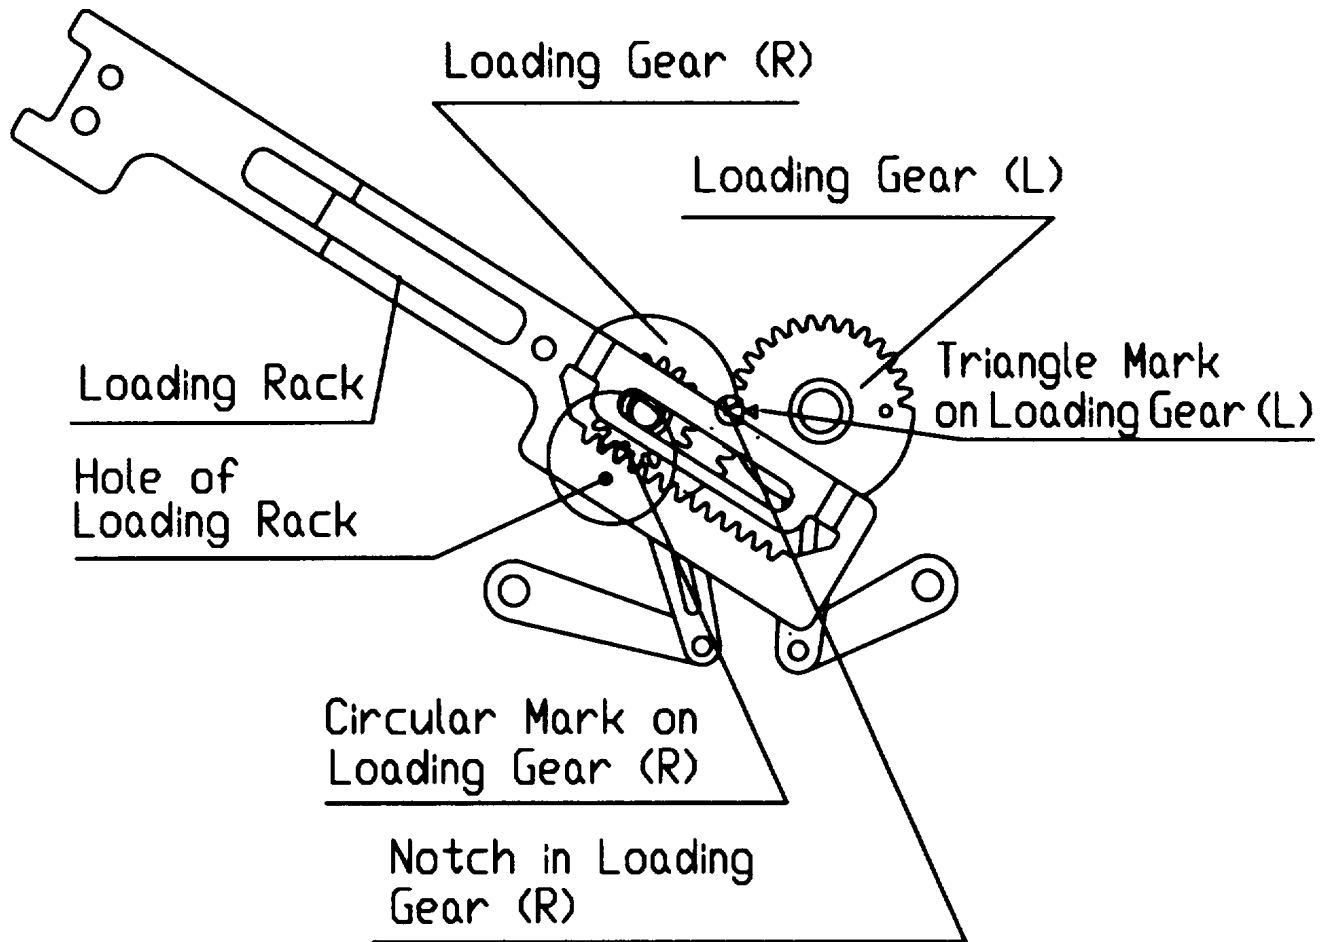

Fig. 18 Loading Gears/Loading Rack Alignment
- When reinstalling, realign the gears as shown in Fig. 18.